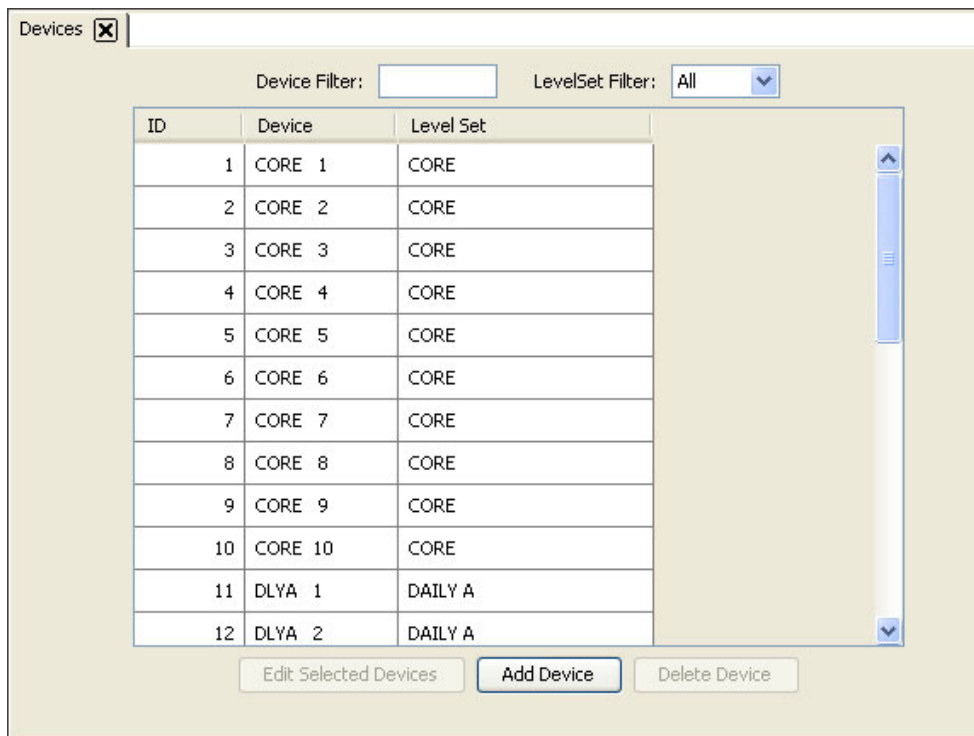

Figure 9-19. Devices Page
- 2 From the Navigation area, select the 'Configuration' pane and then 'Devices'. The 'Devices' page displays, as shown in Figure 9-19.